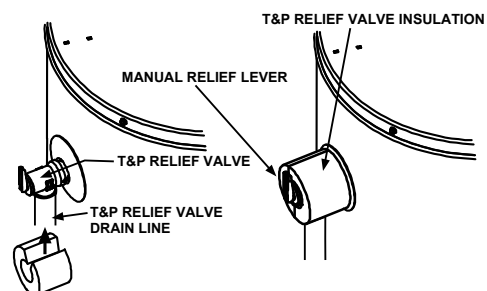

FIGURE 25.
3. Spread this slit open and slip it up under the T&P Relief Valve. See Figure 25. Apply gentle pressure to the insulation to ensure it is fully seated on the T&P Relief Valve. Once seated secure the insulation with a section of tape. **IMPORTANT:** The insulation or tape should not block or cover the T&P Relief Valve drain opening. Also the insulation or tape should not block or hinder access to the T&P Relief Valve manual relief lever.